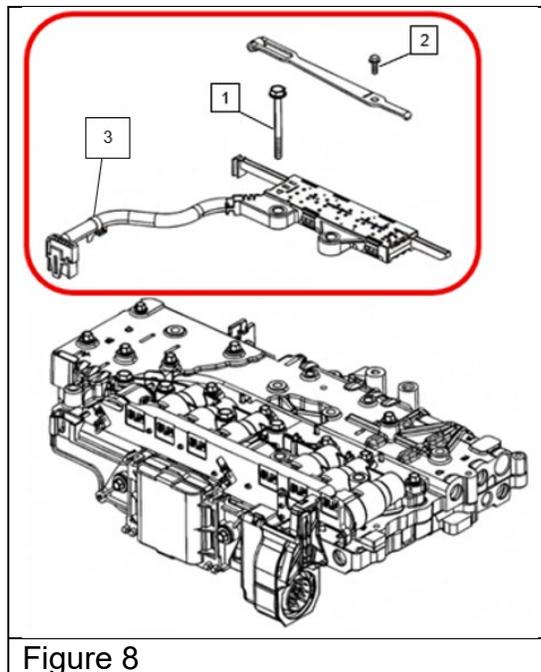

Figure 8
11. Remove manual shift shaft position switch connector and the two bolts for the detent plate and manual shift shaft position switch. See Figure 8.
- a. Remove the bolt (1) for the manual shift shaft position switch. Refer to Figure 8
- c. Remove the harness clip (3) for the manual shift shaft position switch.
- d. Remove the bolt (2) on the detent plate. Place the detent plate aside. Refer to Figure 8.